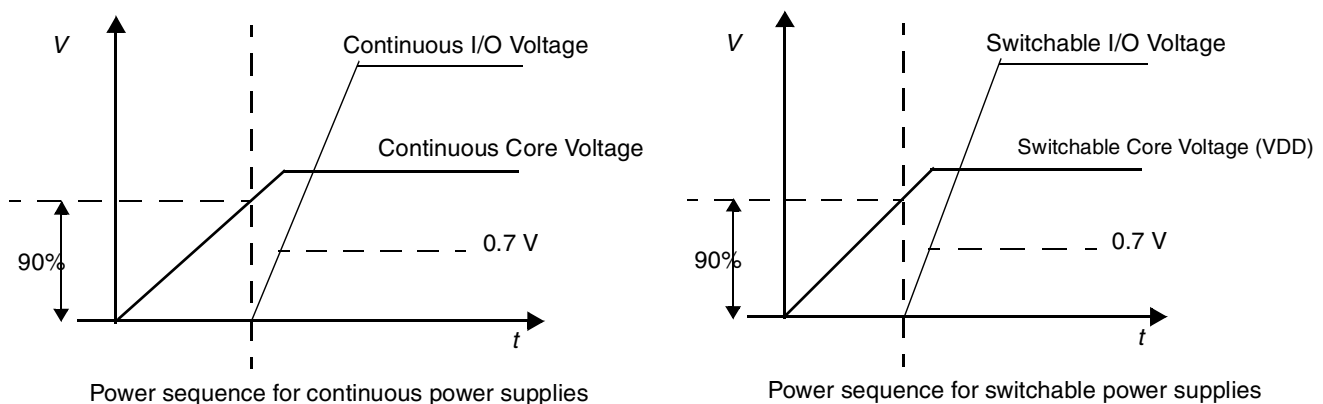

Figure 3. Power-Up Sequencing
5. NV_{IN} on the PCI interface may overshoot/undershoot according to the PCI Electrical Specification for 3.3-V operation, as shown in Figure 3.
The MPC8315E does not require the core supply voltage (VDD and VDDC) and I/O supply voltages (GVDD, LVDDx_ON, LVDDx_OFF, NVDDx_ON and NVDDx_OFF) to be applied in any particular order. During the power ramp up, before the power supplies are stable, if the I/O voltages are supplied before the core voltage, there may be a period of time when all input and output pins be actively driven and cause contention and/or excessive current. In order to avoid actively driving the I/O pins and to eliminate excessive current draw, apply the continuous core voltage (VDDC) before the continuous I/O voltages (LVDDx_ON and NVDDx_ON) and switchable core voltage (VDD) before the switchable I/O voltages (GVDD, LVDDx_OFF, and NVDDx_OFF). PORESET should be asserted before the continuous power supplies fully ramp up. In the case where the core voltage is applied first, the core voltage supply must rise to 90% of its nominal value before the I/O supplies reach 0.7 V, see Figure 3. Once all the power supplies are stable, wait for a minimum of 32 clock cycles before negating PORESET.
Figure 3 shows the power-up sequencing for switchable and continuous supplies.